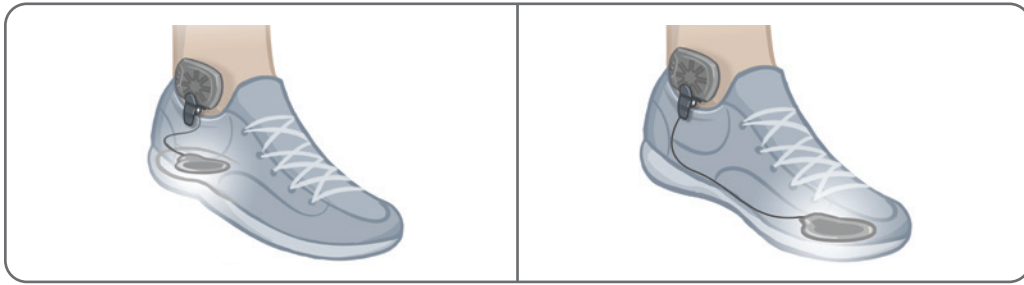

Figure 8-6: Final Position of the Foot Sensor Attached to the Shoe
- Clamp the Foot Sensor transmitter on to the inner rim of the shoe. Face the starburst logo on the transmitter away from the ankle. See Figure 8-6.
- Cover the pressure sensor with the insole. Tuck any excess wire under the insole. See Figure 8-6.